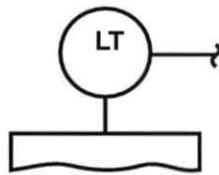

Figure 39. Level Sensing Element Symbol
3. Determine what type of level sensing element symbol is shown in figure 39.